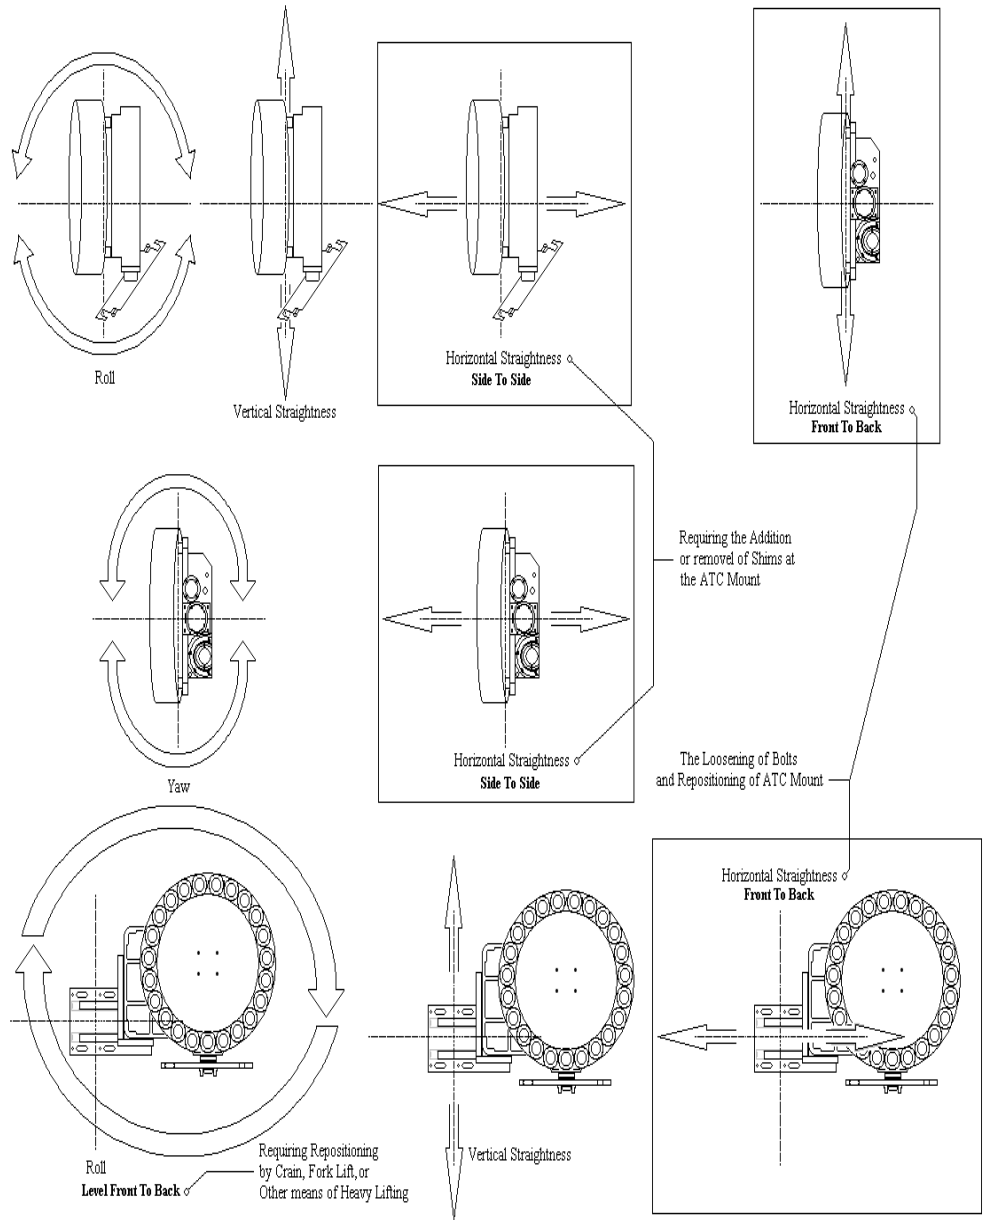

Figure 7-18: ATC Movement
25. Recheck the level and alignment of the ATC for front to back and side to side. If necessary, re-adjust the alignment and tighten the ATC into position. See Figure 7-18:.